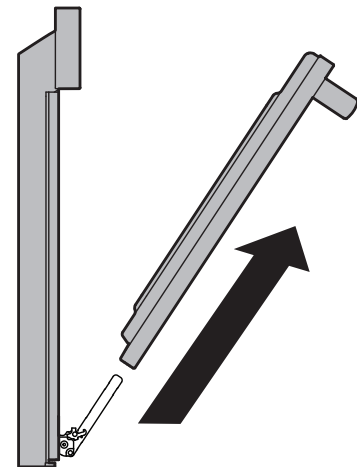

Figure 15: Remove door
4. Pull the bottom of the door toward you while rotating the top of the door toward the appliance to completely disengage the hinge levers (Figure 15).
1. Firmly grasp both sides of oven door along the door sides. Do not use the oven door handle (Figure 15).